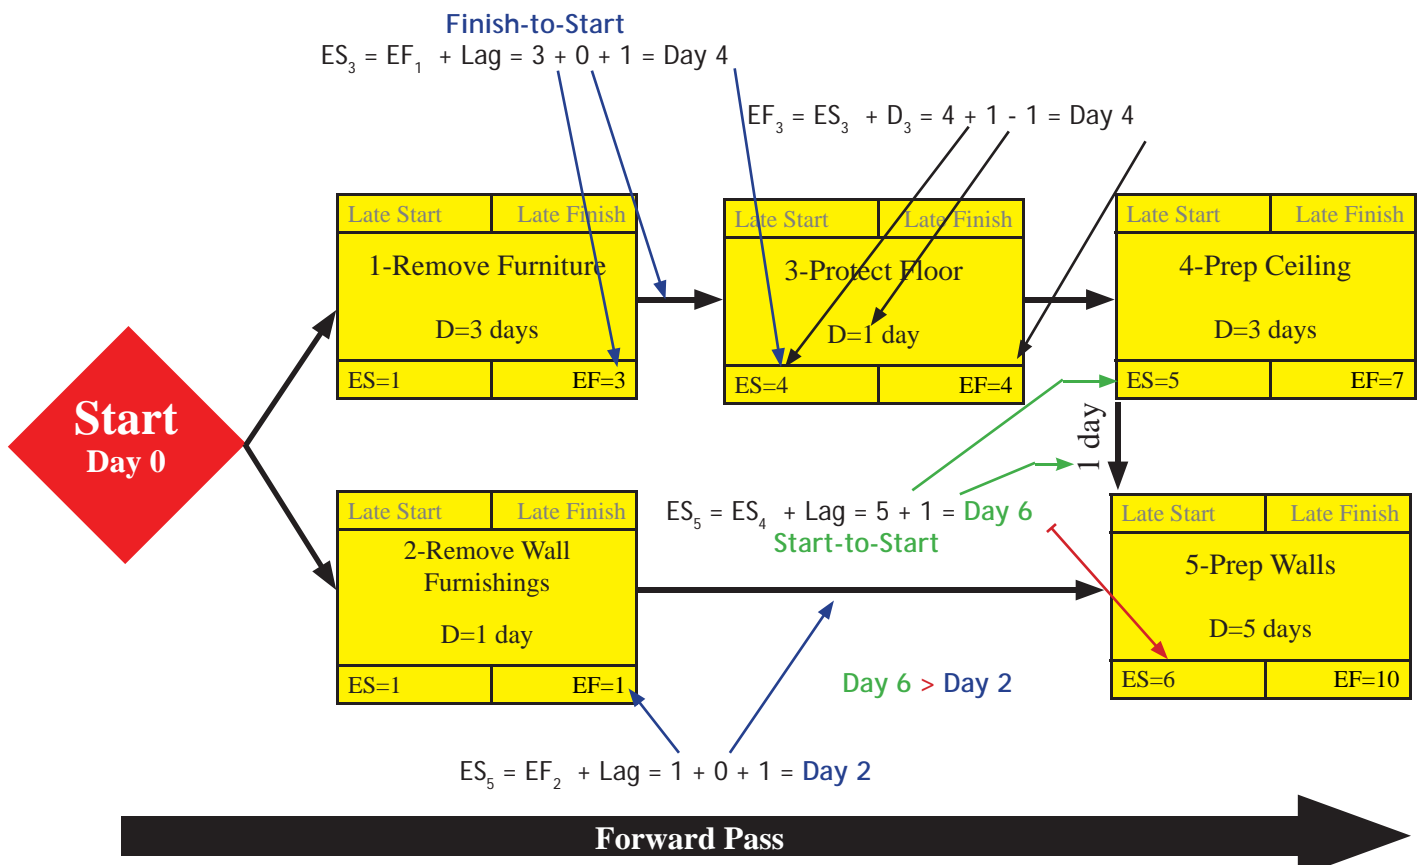

Figure 3-1 Paint a Room–Forward Pass
**Figure 3-1** is the start of a schedule to paint a room. The schedule begins with a *Start* milestone at day 1. Using the formulas, the early days have been calculated.